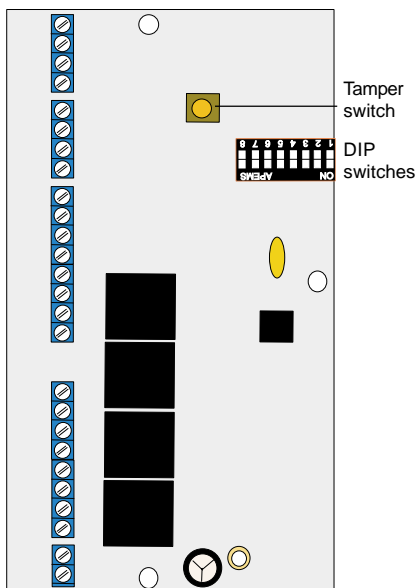

Figure 2. Circuit Board
6. Set the PinPoint address DIP switches. See Figure 2.